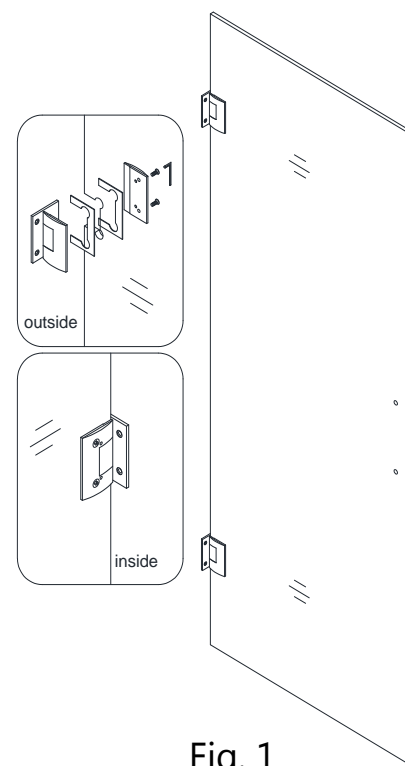

Fig. 1
1. Attach the **Hinges (05)** to the **Door Glass (01)**. Use one hinge gasket per side. Attach the hinges centered in the notches and square with the edge of the door glass. Fully tighten the hinge bolts. (**Fig 1**)